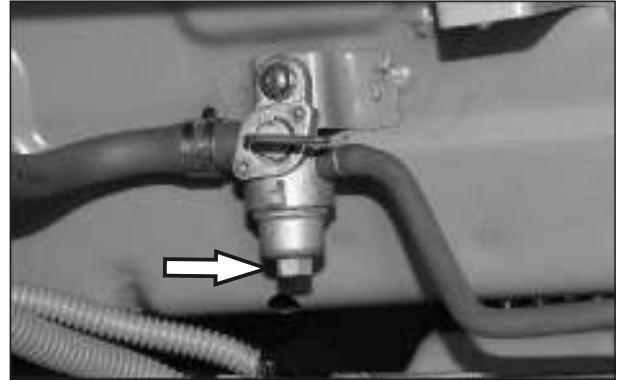

Fig. 2.36
- Loosen and remove the cup fuel strainer leaving the cock assembly fuel in 'OFF' position. (Fig. 2.36)